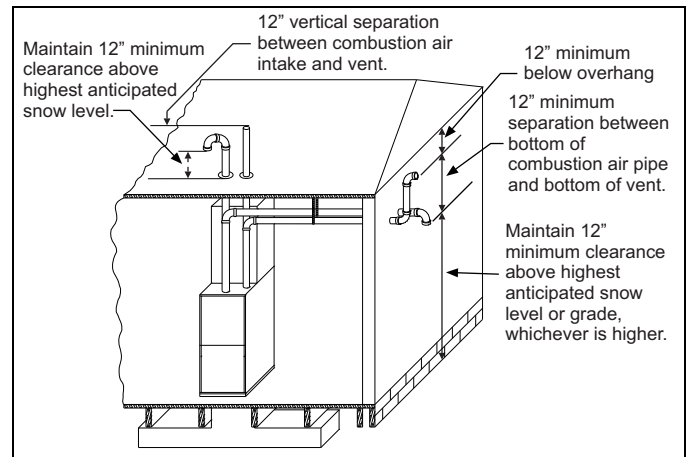
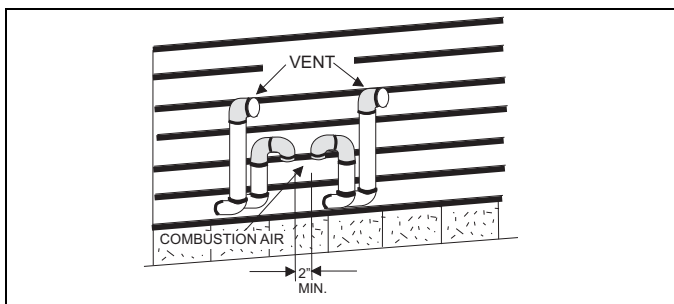

FIGURE 32: Termination Configuration - 2 Pipe
FIGURE 34: Double Horizontal Combustion Air Intake and Vent Termination
7. Direct vent systems must be installed so the vent and the combustion air pipes terminate in the same atmospheric zone. Refer to Figures 32 or 33.
The combustion air side of the two-pipe configuration shown in Figure 32 can be installed so the combustion air pipe terminates as described in outdoor combustion air or ventilated combustion air sections in these instructions. Follow the instructions for outdoor combustion air or ventilated combustion air and the instructions for installing the vent system with the vent terminating as shown in Figures 34 or 35. The two-pipe system must have a separate combustion air pipe and a separate vent pipe for each furnace. Under NO circumstances can the two combustion air or vent pipes be tied together. The combustion air and vent pipes must terminate in the same atmospheric zone.